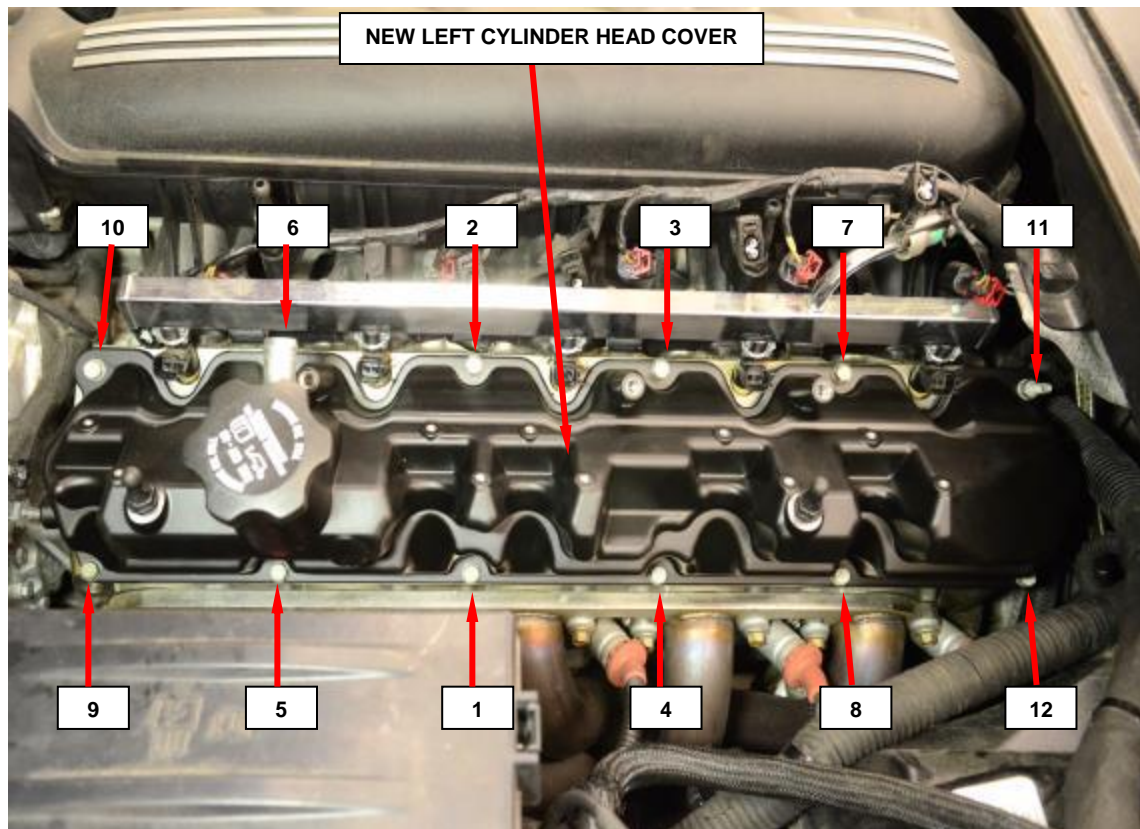

Figure 6 – Left Cylinder Head Cover Tightening Sequence
11. Remove and save the twelve left cylinder head cover bolts. Remove and **discard** the left cylinder head cover (Figure 6).
13. Install and tighten the twelve cylinder head cover bolts and tighten to 80 in. lbs. (9 N·m) in the sequence shown (Figure 6).